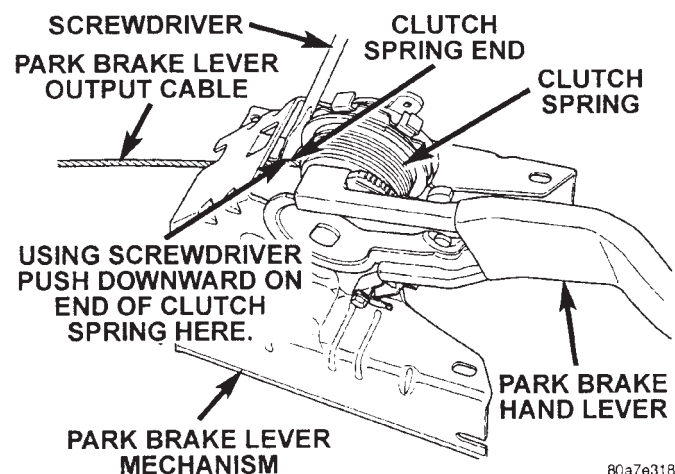

**Fig. 126 Releasing Clutch Spring**
Using a screw driver (Fig. 126) push down on the end of the clutch spring where shown (Fig. 126). While end of clutch spring is held down, pull outward on park brake mechanism output cable.
If output cable can not be pulled out of park brake mechanism, by pulling directly on output cable, use a screwdriver inserted in tension equalizer (Fig. 126) to assist in pulling on cable.
**NOTE:** If auto adjuster was not reloaded before removing the tension equalizer from both rear park brake cables, (Fig. 126) the park brake lever output
cable (Fig. 126) will be pulled into the park brake mechanism.
Using a screw driver (Fig. 126) push down on the end of the clutch spring where shown (Fig. 126). While the end of the clutch spring is held down, pull outward on park brake mechanism output cable. If output cable can not be pulled out of park brake mechanism, by pulling directly on output cable, use a screwdriver inserted in tension equalizer (Fig. 126) to assist in pulling on cable.